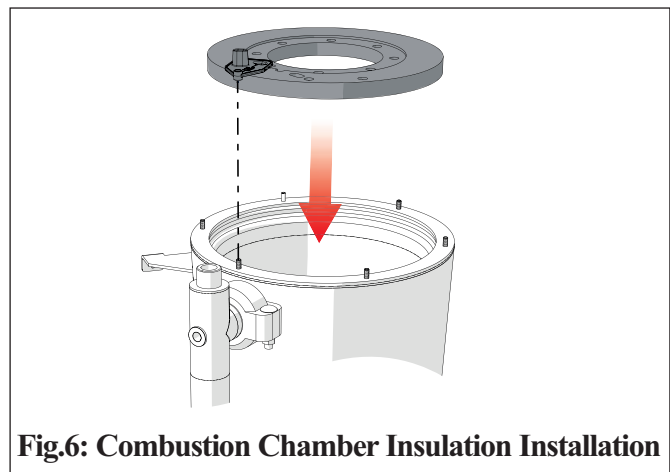

Fig.6: Combustion Chamber Insulation Installation
- Install the new combustion chamber insulation in the heat exchanger so that the alignment tool goes over the correct heat exchanger stud as shown in Fig. 6.